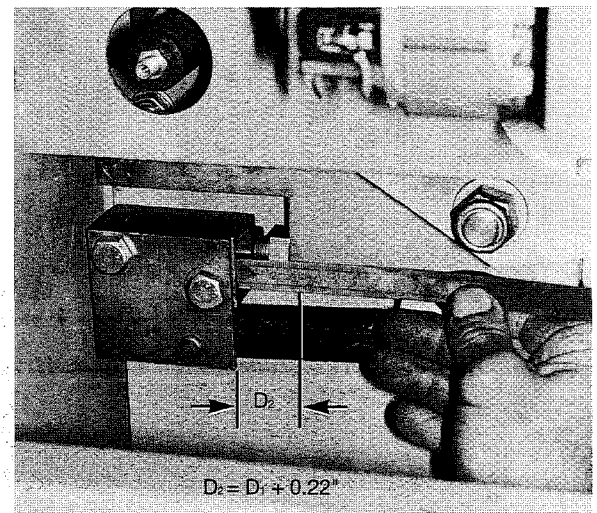

Figure 42: Stop screw installation
6. Coat the threads of the stop screw and locking nut with Loctite. Install the screw and locking nut so that the distance from the stop block surface to the top of the screw head equals distance $D_1 + 0.22''$ (5.5 mm). This distance is shown in figure 42 as D_2 . Secure the locking nut.